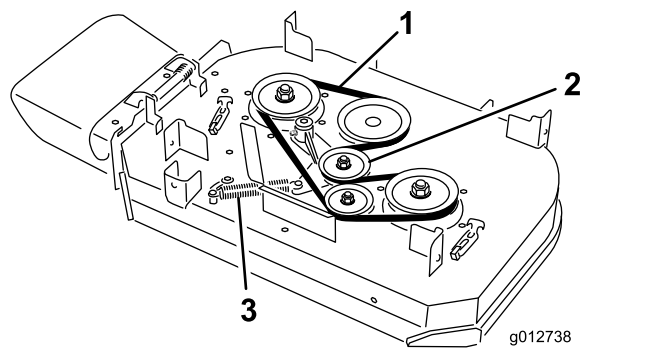

Figure 63
4. Remove the spring from the anchor post on the idler-pulley arm (Figure 63).
5. Remove the worn mower belt (Figure 63).
6. Install the new mower belt around the clutch pulley, the deck pulleys, and the idler pulley (Figure 63).
7. Install the spring onto the anchor post on the idler-pulley arm (Figure 63).
8. Install the spring onto the anchor post on the idler-pulley arm (Figure 63).